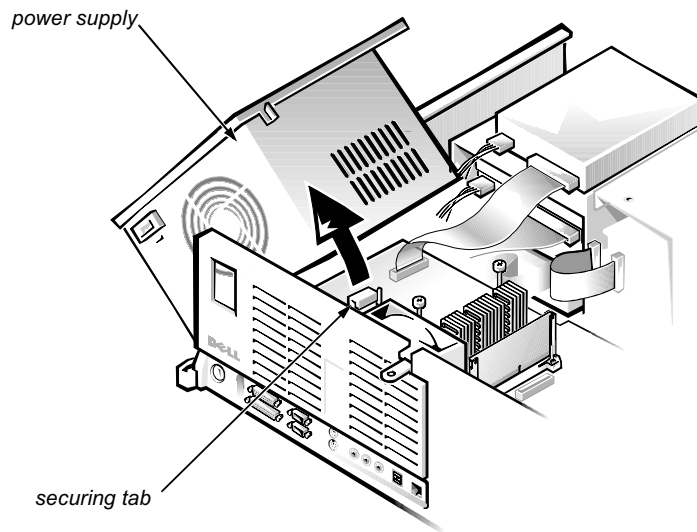

Figure 8-6. Rotating the Power Supply
2. **Disconnect the AC power cable from the AC power receptacle on the back of the power supply (see Figure 8-6).**